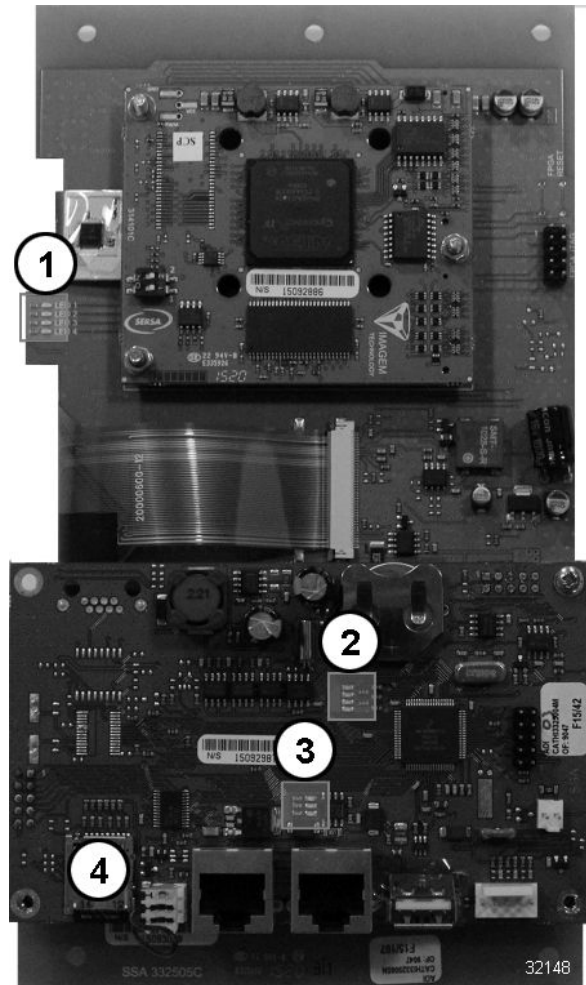

Fig. 114
The touch panel / display assembly uses LEDs to provide both diagnostic and communication information. The primary board has four diagnostic indicator LEDs (1, Fig. 114). The communications board has four diagnostic LEDs (2) and two communication indicator LEDs and a power indicator LED (3).
There are two sets of diagnostic LEDs located on the touch panel / display assembly. One set (1, Fig. 114) is on the primary board and the other set (3) is on the communications board.
- Reseat SD card (4, Fig. 114).